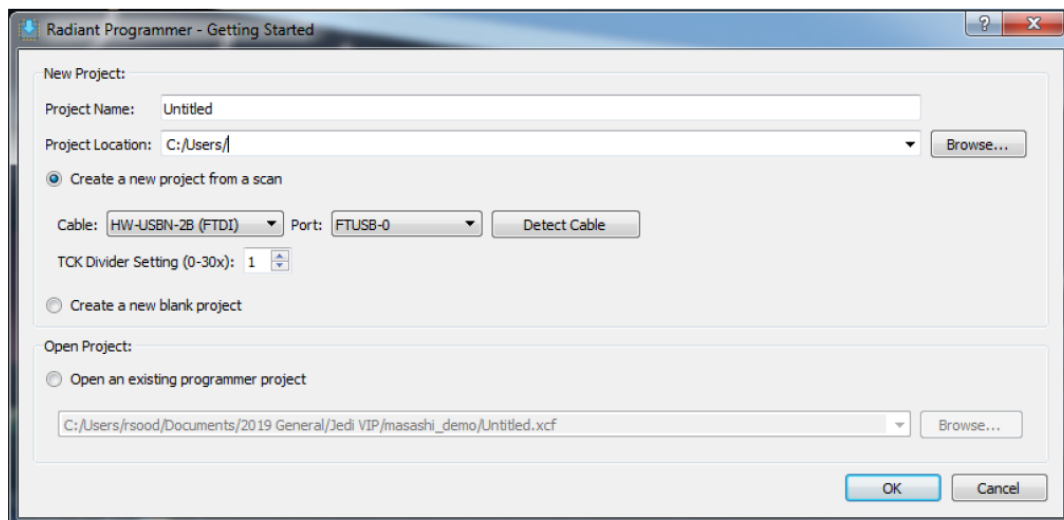

FIGURE 4. STARTING PROGRAMMER
1. Power on the board, start a programming project by launching the Lattice Radiant tool and initiating a board scan, as shown in Figure 4.